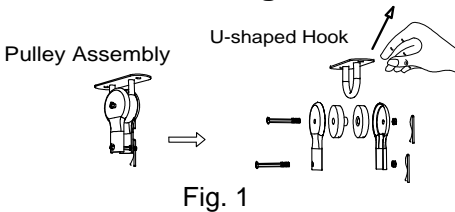

Fig. 1
Step 1. Remove the two pairs of clevis pins and the "R" pin from the pulley assembly, and take out the U-shaped hook. (Fig. 1)